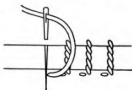

FIGURE 44
*Straight Fagoting* (Figure 44). — Finish the edges of the material with a hem and baste the material on stiff paper or cloth as for the diagonal fagoting. Working from right to left,